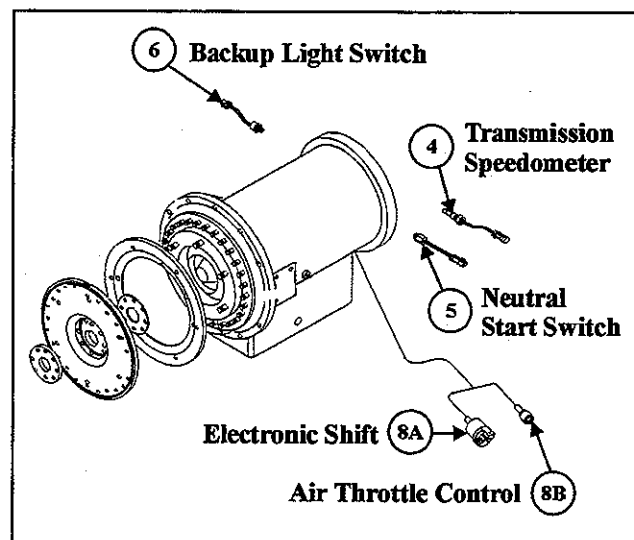

Figure 8—Electrical Connections
6. Disconnect electronic shift (8A). (See Figure 8—Electrical Connections.)
8. Disconnect neutral start switch (5).
9. Disconnect the Allison transmission speedometer (4).
10. Disconnect backup light switch (6).